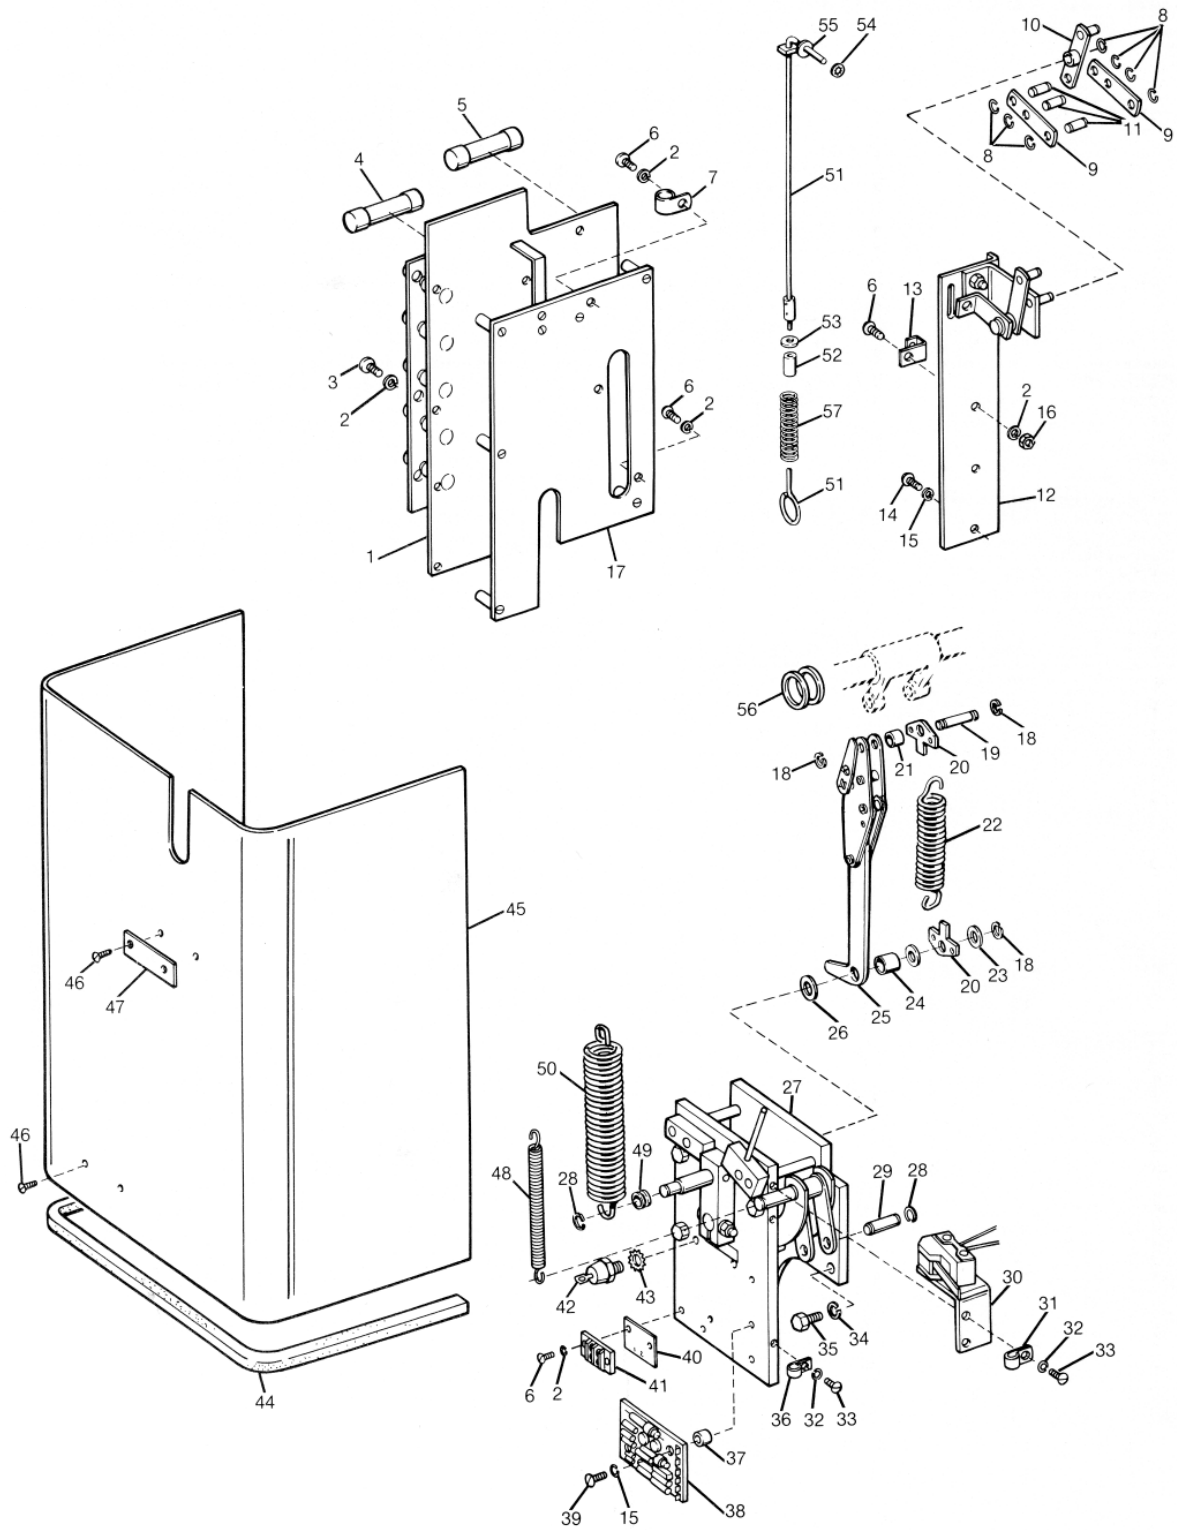

Figure 25a.
**Operating Mechanism (Figure 25a)**